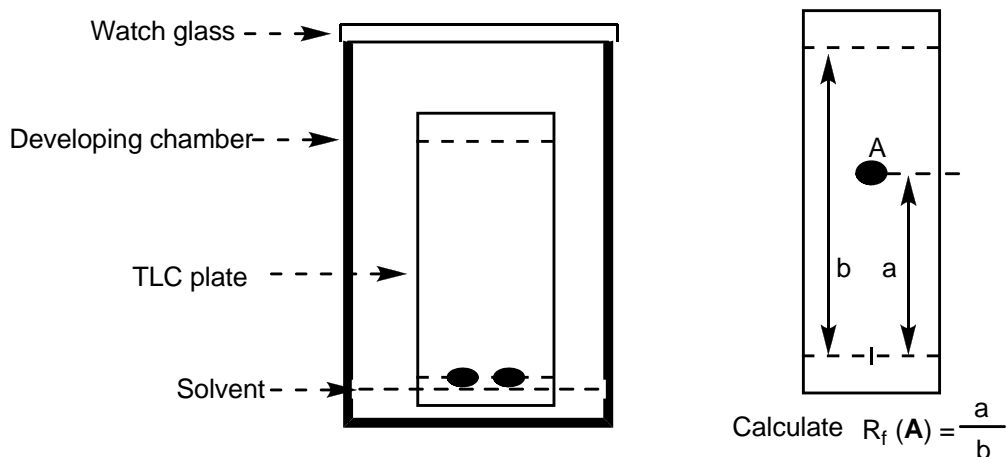

Figure 2.3. A TLC plate placed in the TLC developing chamber and instruction for R_f calculation of compound **A**
10. Circle all the visualized spots and calculate the R_f values of both artemisinin and the product (*See instruction in Fig. 2.3*). Store your TLC plate in the Petri dish.